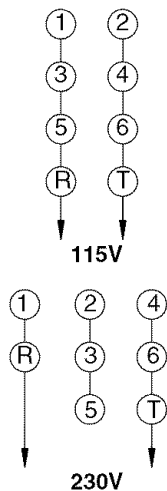

Figure 5 - Grinder Motor Wiring Diagram
- Rewire grinder motor to 230 volts (See Figure 5).